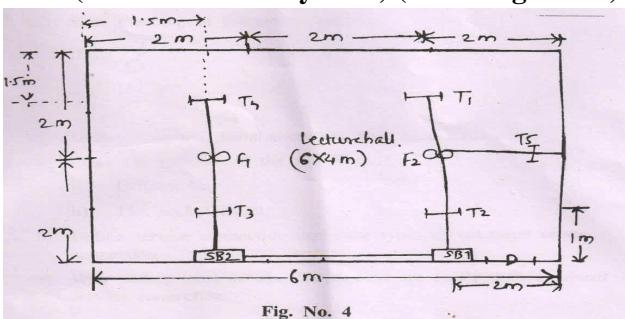

Fig. No. 4
- f) Calculate and select length of phase wire, calculate length of neutral wire for given commercial installation. (Assume necessary data) (Refer Fig. No. 4)